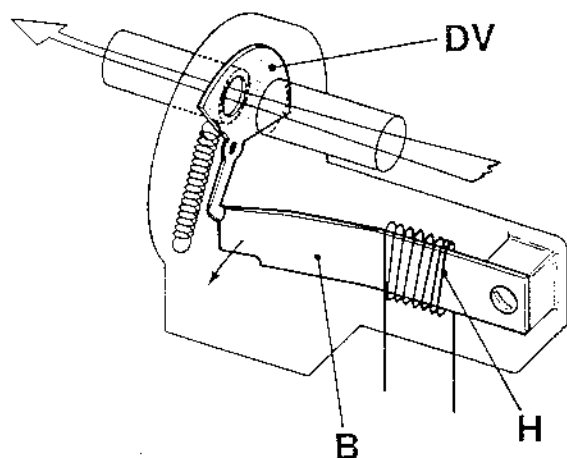

Fig.16A Extra air valve (cold)
The extra air valve contains a disc valve (D) as seen in fig.16A, and its basic design is quite simple. When cold, an aperture in the disc and an aperture in the body of the valve are in alignment, allowing air to pass through. When the temperature rises, the disc turns about its central spindle progressively eclipsing the aperture through which the air can pass.